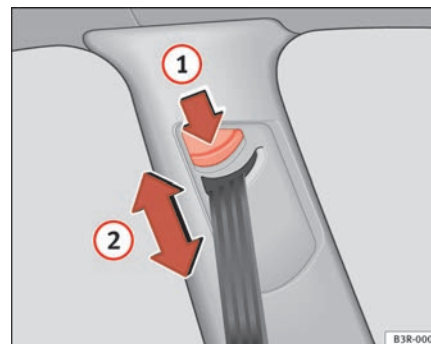

Fig. 16 Belt height adjustment - top guide fitting
- Press button ⇒ fig. 16  to adjust the belt height. ▶
- Take hold of the top guide fitting and slide it up or down so that the shoulder part of the seat belt is positioned roughly midway over the shoulder, although **it must never rest against the neck** ⇒ page 25, fig. 16 ② ⇒ ⚠ in “Seat belt position” on page 23.